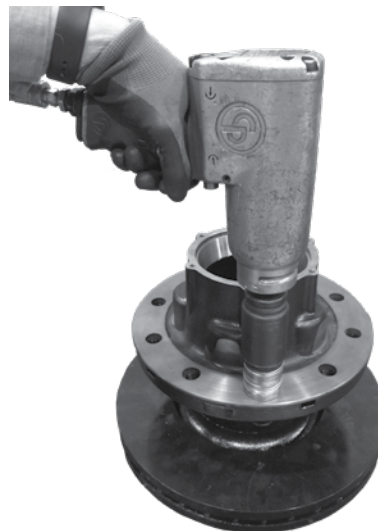

Figure 16: Stud draw-in process
5. **Draw** studs tight by tightening the wheel nut with a 1/2 inch drive impact wrench (Figure 16).